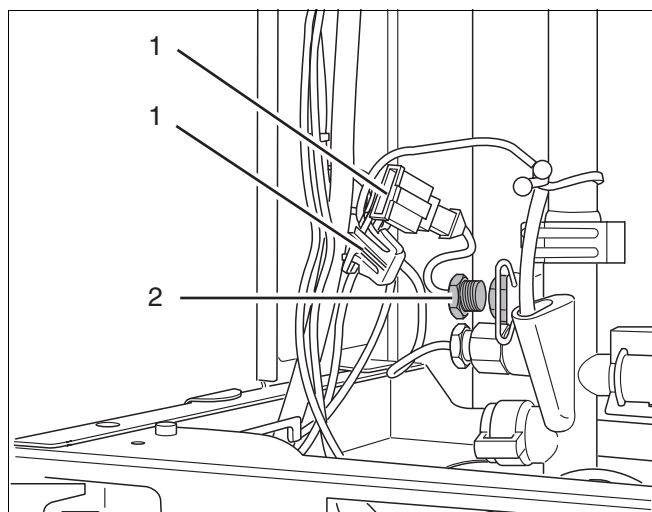

Fig. 68 600 Series 11S / 19S / 24S / 24C:
- Loosen the plug-in connection (fig. 68, item 1).
- Unscrew the sensor (fig. 68, item 2) and replace with a new unit.